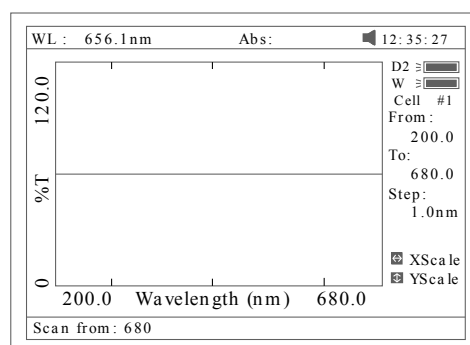

Fig 42
1. Press [F1] to setup, input the start wavelength, and end wavelength by pressing the numeric keypad (Fig 42).